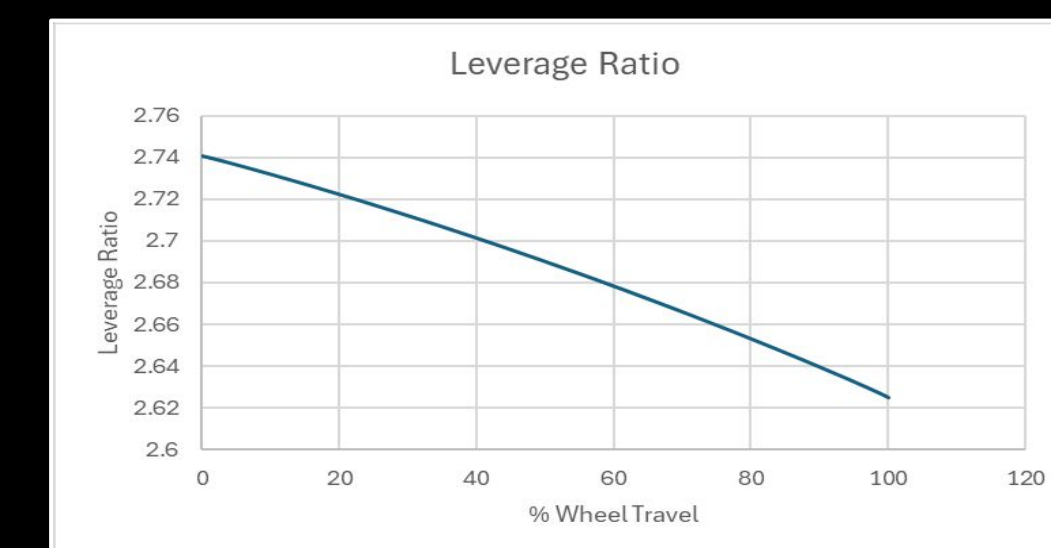

Fig. 7 Leverage Ratio vs. Wheel Travel
-Equipped with an appropriate leverage ratio and shock to achieve a total rear wheel travel of 150 mm (Fig. 7)